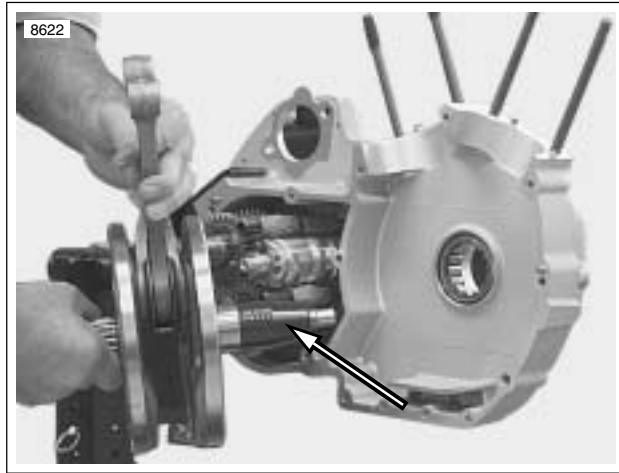

Figure 6-85. Installing Flywheel Assembly Using Crankshaft Guide Tool (Part No. HD-42326)
1. See Figure 6-85. Install the flywheel assembly into the left crankcase half using CRANKSHAFT GUIDE TOOL Part No. HD-42326.